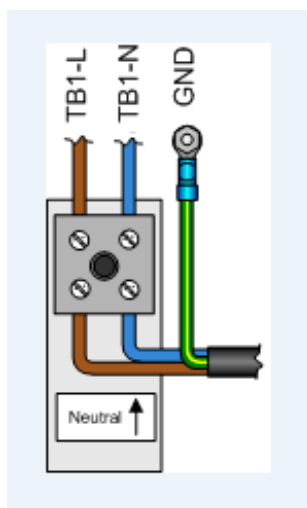

Figure 17: Wiring AC Power Conduit
5. Connect the conduit *Line* (brown or black wire) to the bottom of the Terminal block in the left port, and connect the *Neutral* (blue or white wire) in the right port (Figure 17).
7. Attach a terminal ring to the grounding conductor (green OR green/yellow wire), and connect it to the ground stud (Figure 17).